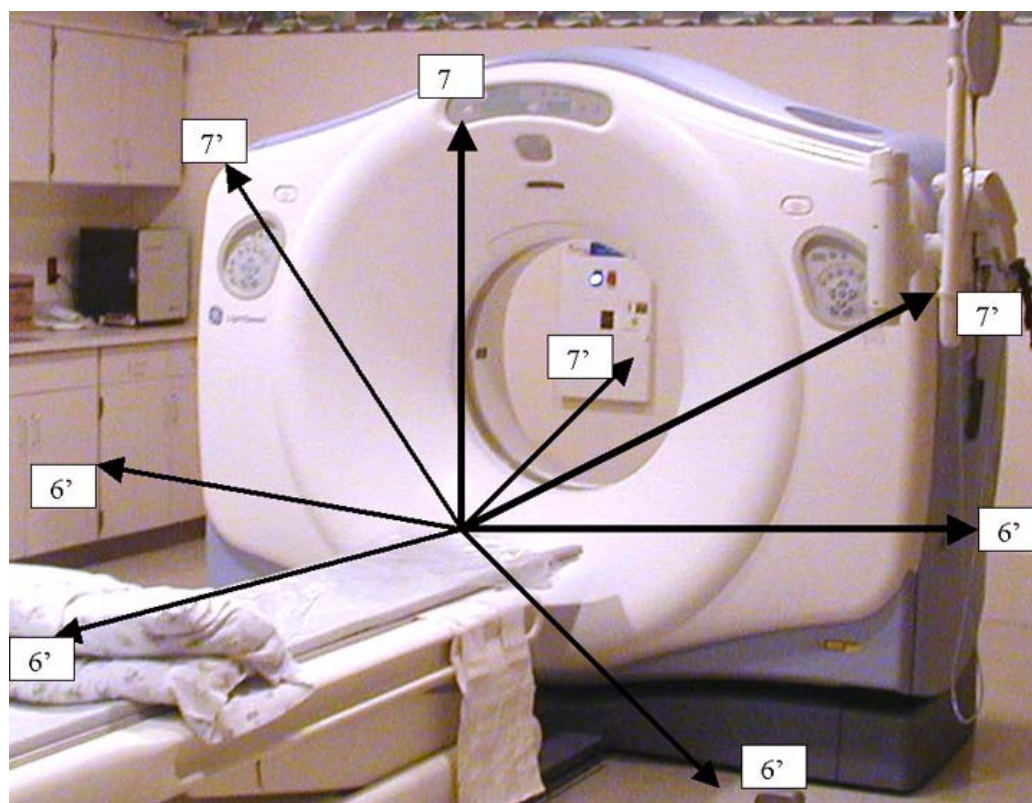

Figure 4-3 Measurement Points
- 10.) Testing must be completed between the system reference ground point (table base) to unit reference ground points (i.e. gantry and table, see Figure 4-3).